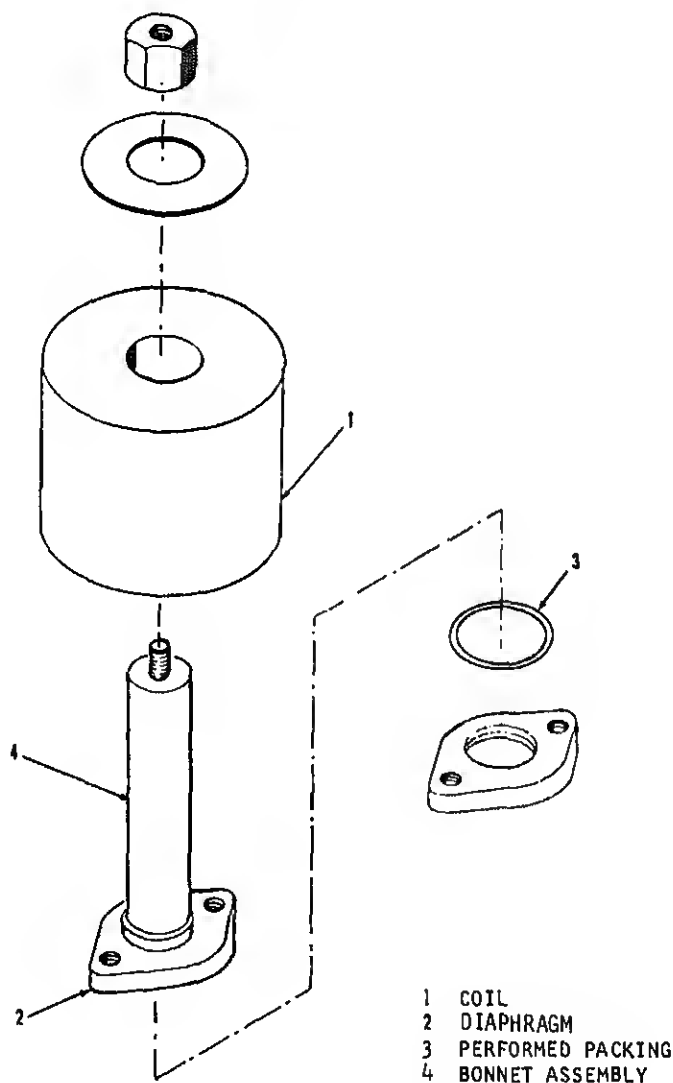

Figure 6-3. Solenoid valve, exploded view
a. General. Replaceable parts are the coil bonnet assembly, diaphragm and the preformed packing. See figure 6-3.
(1) Remove electrical connector from solenoid valve leads.
(2) Remove nut on top of valve housing. Lifting housing and coil assembly from bonnet assembly.
(3) Remove coil from housing.
(4) Install coil bottom plate edge upward.
(5) Install lower coil sleeve flange at bottom. Install coil lead exits at bottom.
(6) Install coil spring with edges upward and upper coil sleeve